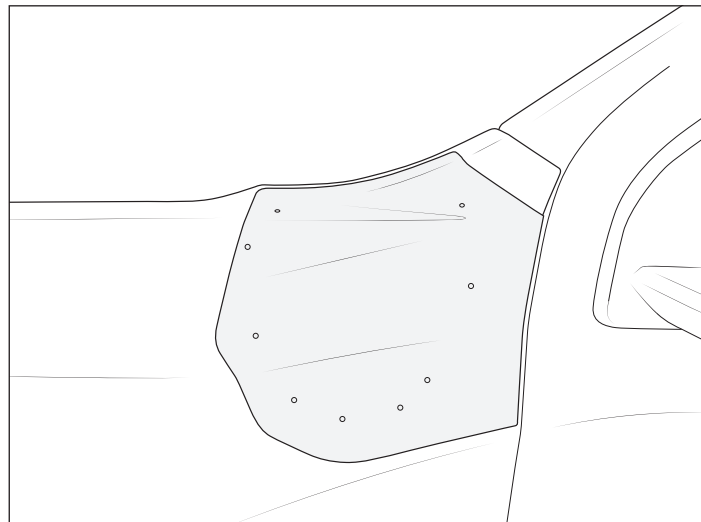

Figure 2
5. Align the supplied template along upper right side of fender and mark hole locations (fig. 2).